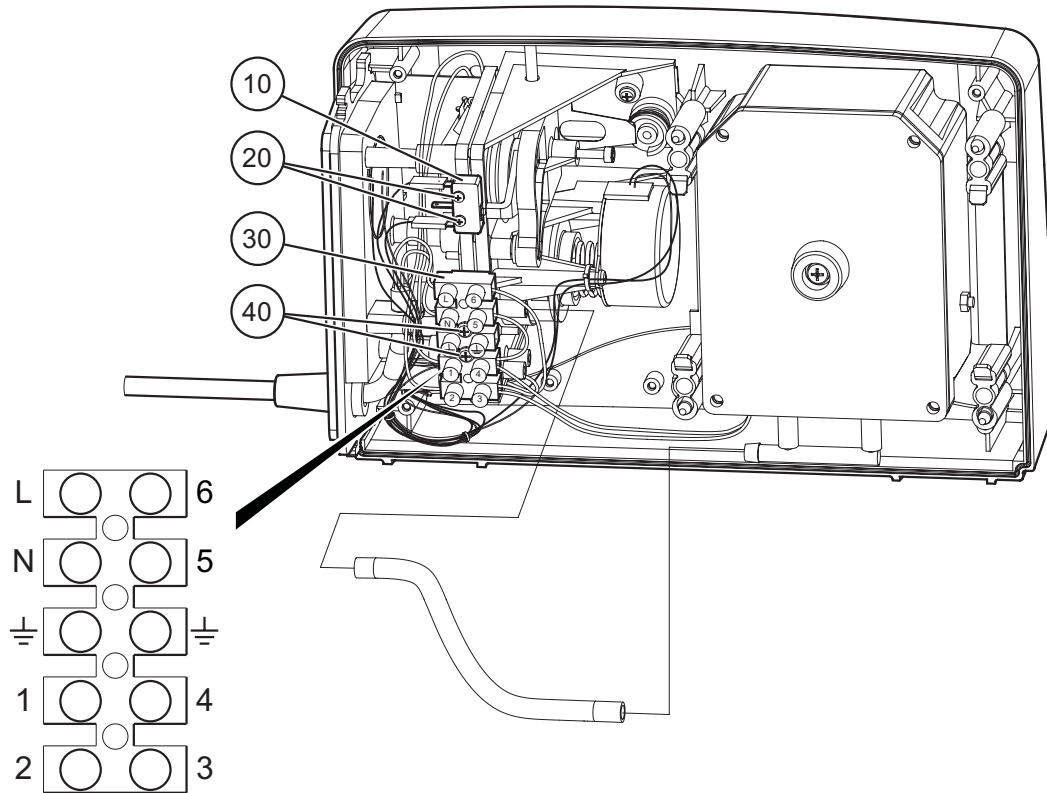

Figure 18 - Replacing the Micro switch and Terminal Block
- 32.2 Disconnect the indicator lead from the Micro switch (Fig 18, Item 10).
- 33.1 Pull off connectors from the Micro switch terminals 1 and 3 (Fig 18, Item 10).
- 33.2 Release two screws (Fig 18, Item 20) and remove the Micro switch from the pressure control module.
- 34.1 Disconnect all wires from the terminal block (Fig 18, Item 30).
- 34.2 Release two securing screws (Fig 18, Item 40) and remove the terminal block from the pressure control module.
- 37.3 Identify the synchronous motor electrical lead from the terminal block (terminals 1 and 2) (Fig 18, Item 30). remove the relevant cable ties and release the synchronous motor electrical lead.